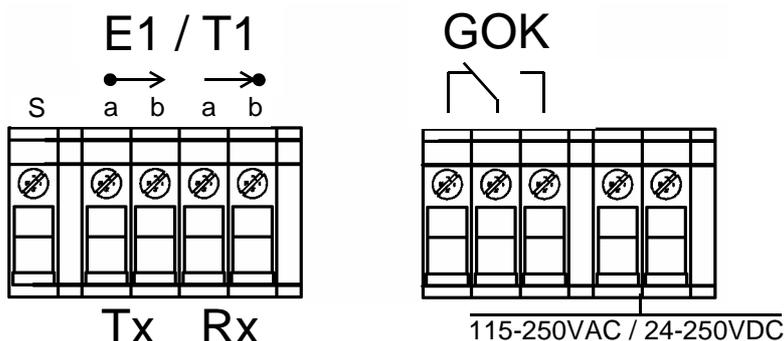

Figure 17 Terminal blocks
- ❑ **GOK (DR):** The device ready contact is routed to three device terminals. The drawing of the terminals on Figure 17 shows the idle state. Under the following conditions the DR-Contact gets active:
The following connections are present (s. Figure 17):